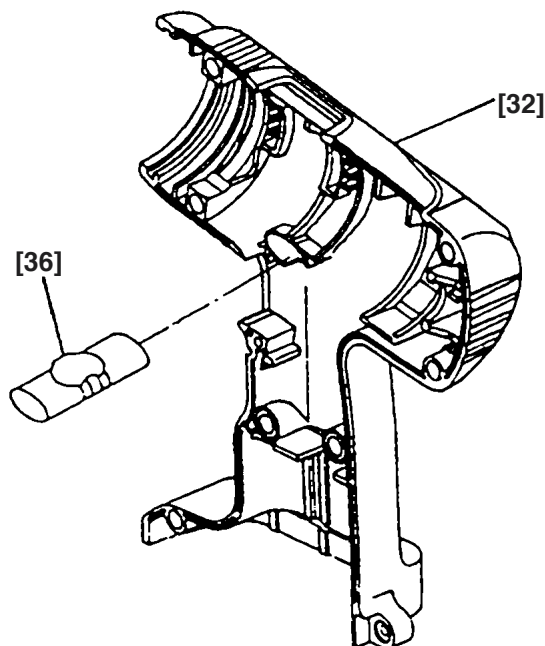

Fig. 18
(6) Installation of the assembly reassembled in step (5) into Housing (A). (B) Set [32]
(a) Install the Pushing Button [36] into Housing (B) [32]. (See Fig. 18.)